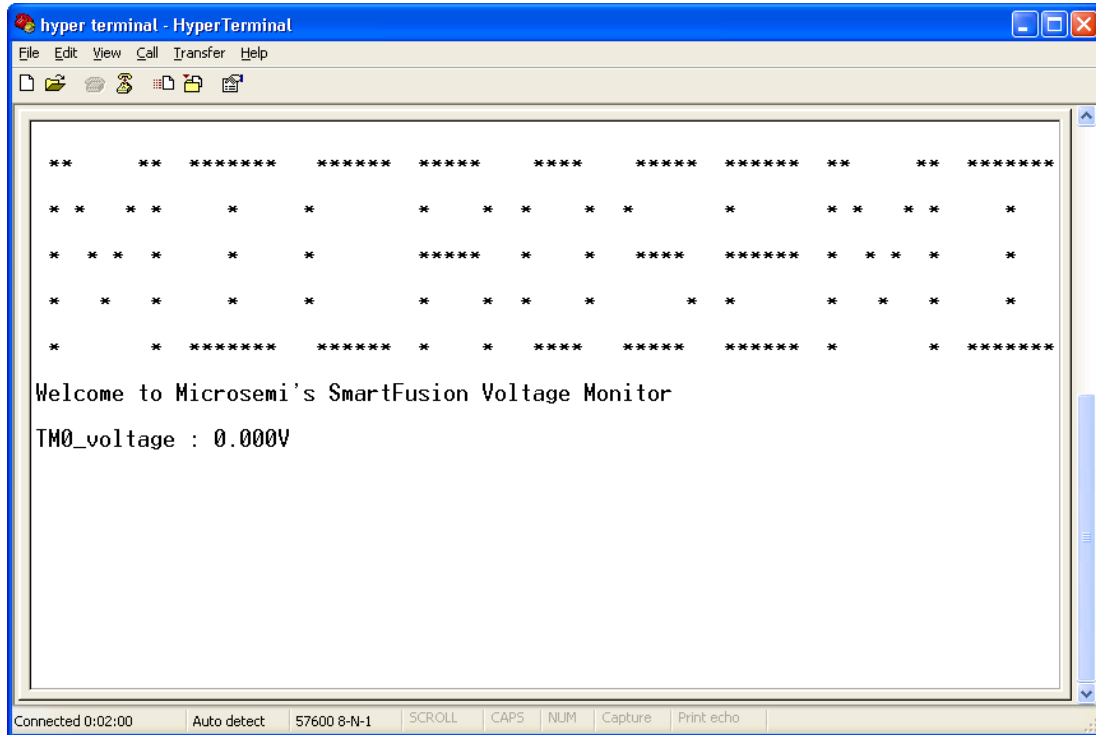

Figure 50 · UART HyperTerminal Window
5. Observe the HyperTerminal window. It should display the greeting message with Microsemi name as shown in Figure 50 . .